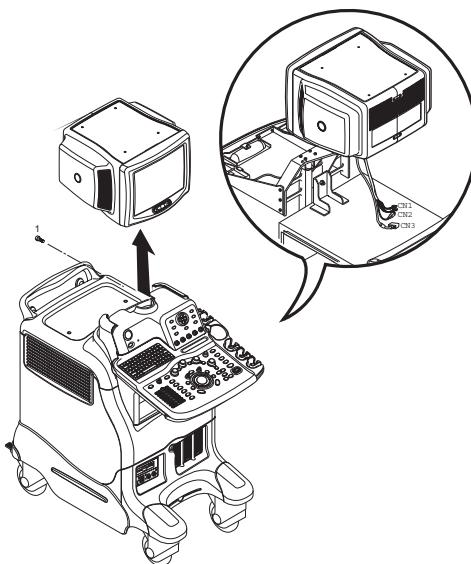

Figure 8-3 Lifting the Monitor Assy Upward
- 4.) Lift the Monitor Assy upward. Refer to Figure 8-3.